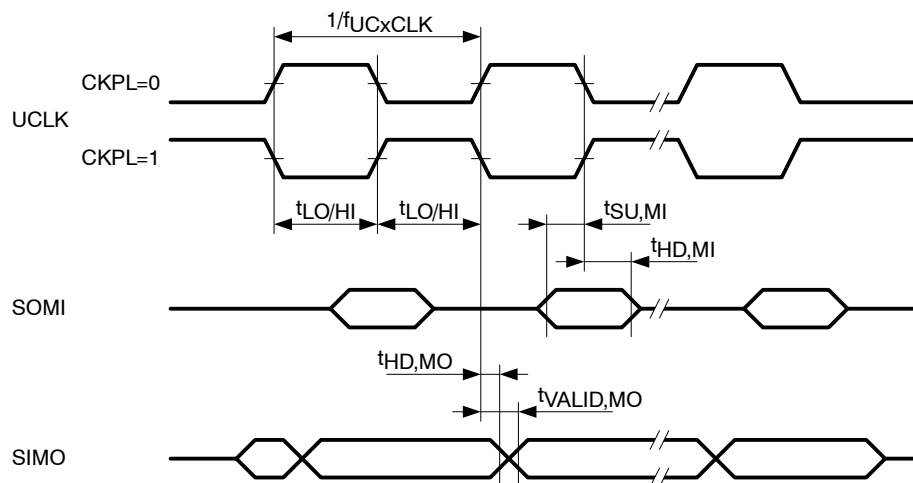
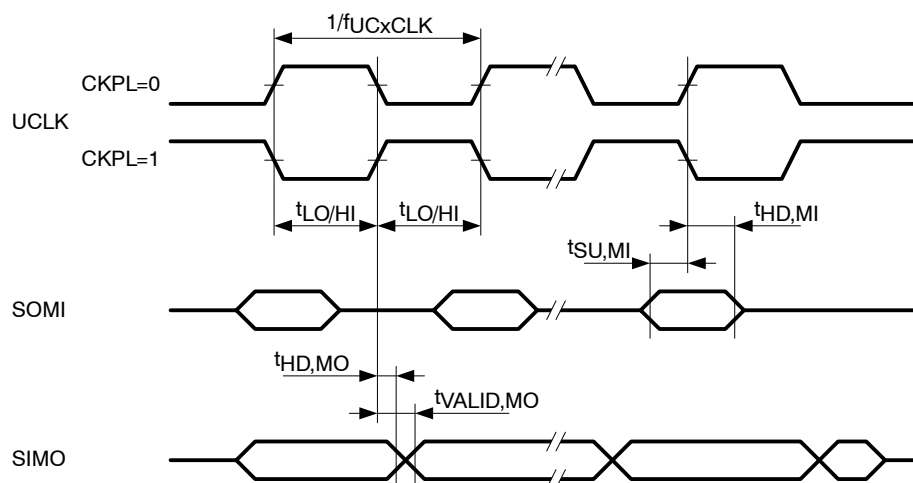

Figure 21. SPI Master Mode, CKPH = 0
Figure 22. SPI Master Mode, CKPH = 1
USCI (SPI master mode) (see Note 1, Figure 21, and Figure 22)
- Specifies the time to drive the next valid data to the SIMO output after the output changing UCLK clock edge. Refer to the timing diagrams in Figure 21 and Figure 22.
- Specifies how long data on the SIMO output is valid after the output changing UCLK clock edge. Negative values indicate that the data on the SIMO output can become invalid before the output changing clock edge observed on UCLK. Refer to the timing diagrams in Figure 21 and Figure 22.